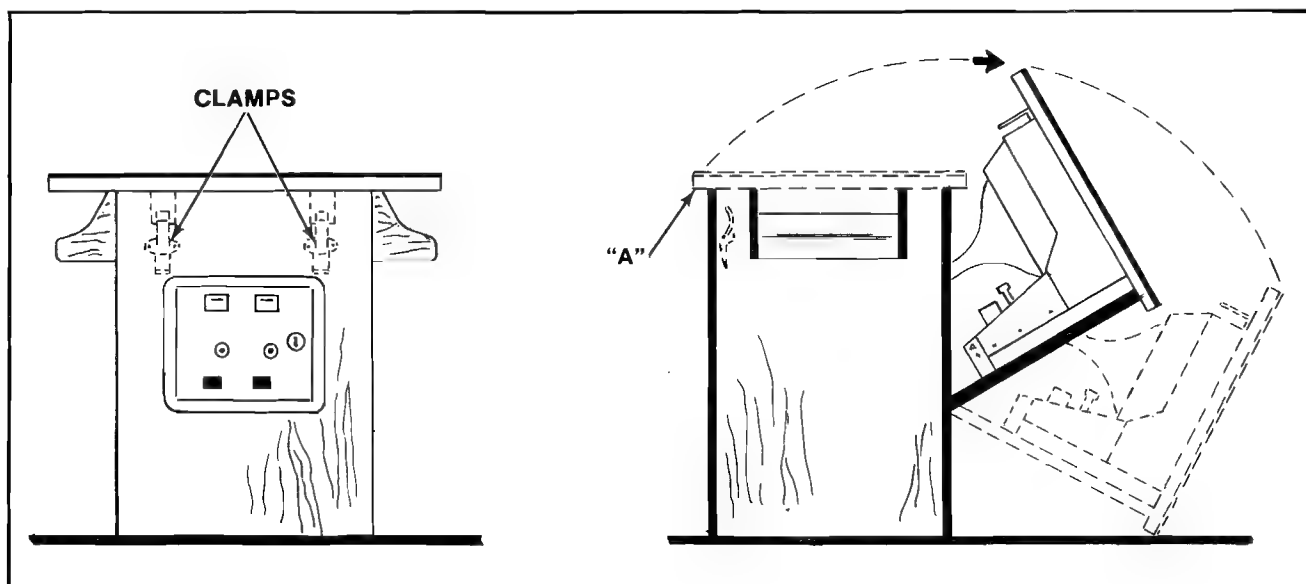

Figure 4-10 Opening the Cocktail Game
- Open the coin box door and release the two latches indicated in Figure 4-10.
- Grasp the table top at "A" and open it as indicated in Figure 4-10.
Open the coin box door and release the two latches indicated in Figure 4-10.
- ☐ Grasp the table top at "A" and open it as indicated in Figure 4-10.